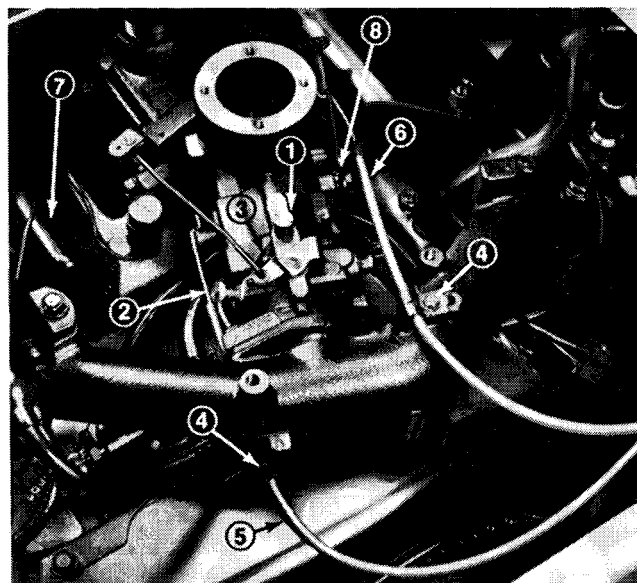

Figure 23
1. Main fuel screw (Fig. 23) — Close screw by gently rotating it clockwise.
3. Idle fuel adjusting screw (Fig. 23) — Close screw by gently rotating it clockwise. Open screw by rotating it 1 - 1-1/2 turns counterclockwise.
6. Idle Speed Setting (Fig. 23) – Run engine at half-throttle for 5-10 minutes to warm up. Move throttle to SLOW and set engine speed to 1750 RPM by turning the idle speed adjusting screw clockwise or counterclockwise.
1. Loosen cable clamp screw securing cable to engine (Fig. 23).
3. Pull firmly on throttle cable till governor arm contacts stop (Fig. 23).
3. Pull firmly on choke cable and tighten cable clamp screw (Fig. 23).
1. Remove breaker box cover (Fig. 23).